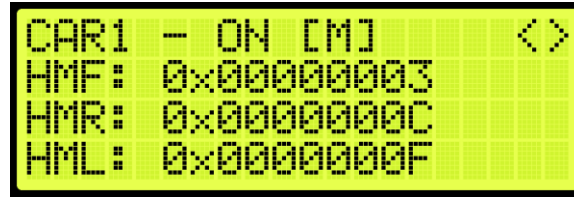

Figure 365: Hall Mask Status
3. From the Hall Mask Status (See Figure 365), press the right button.